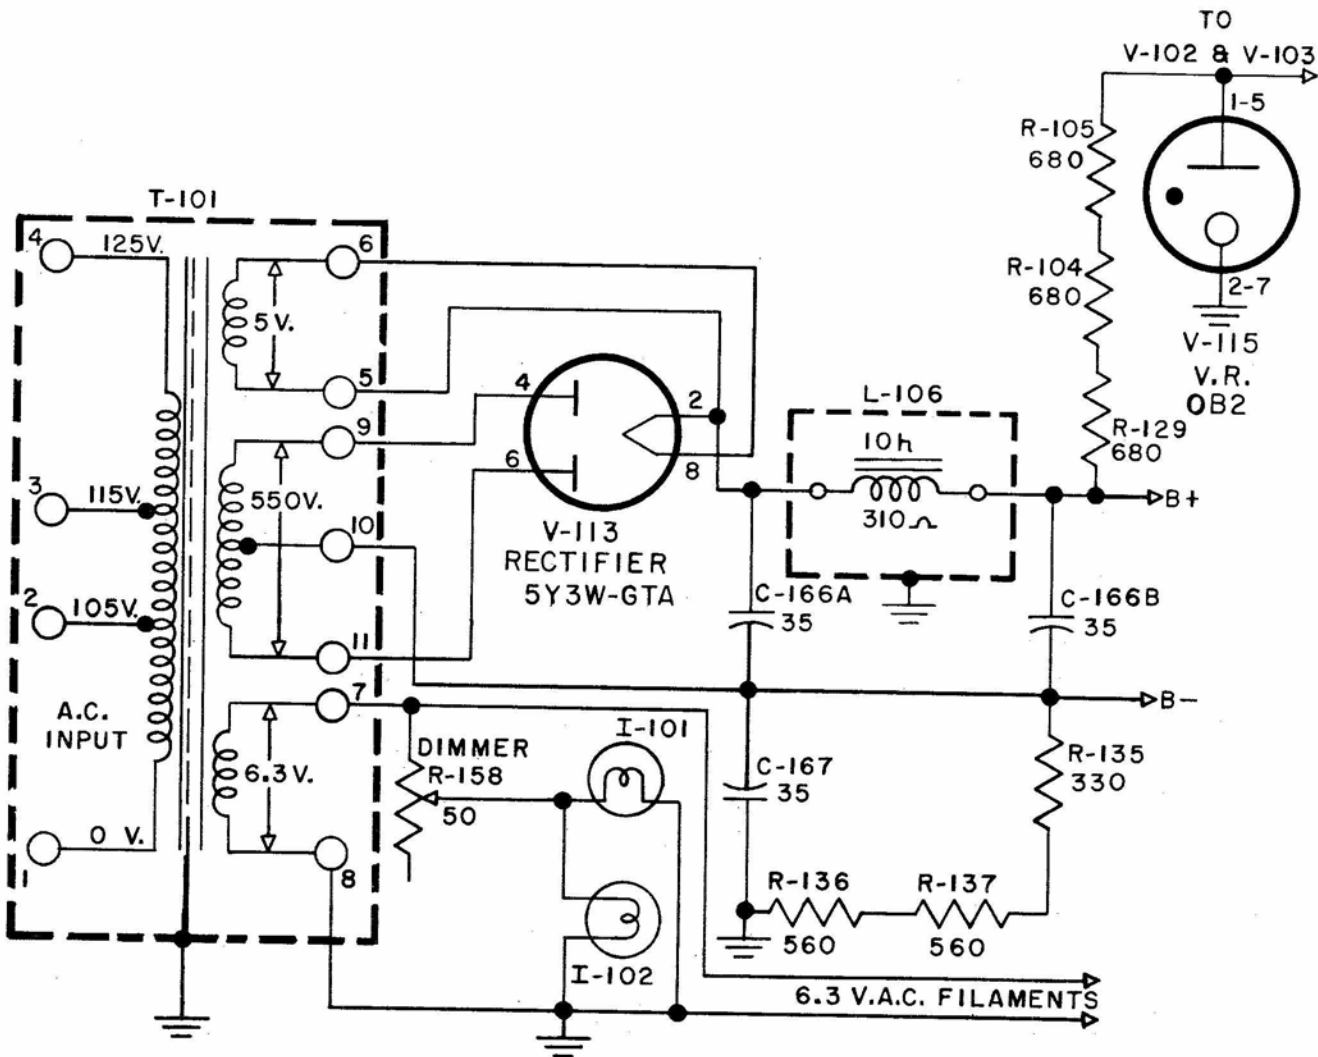

Figure 2-10. Power Supply, Simplified Schematic Diagram
1. POWER SUPPLY CIRCUIT DETAILS. (See Figure 2-10.)—The power supply used in the receiver has been designed to furnish filament voltage of 6.3 volts AC at 4 amperes, and B-plus voltages of 225 volts DC at 110 milliamperes and 108 volts DC, regulated, at 40 milliamperes when connected to the proper A.C. supply voltage. Power transformer T-101 has three taps on the primary permitting operation of the equipment from supply voltages of 105, 115, or 125 volts A C. depending upon the position of the movable link which is placed in the correct position when the equipment is installed.
the high-voltage secondary. The B-minus lead is not connected directly to the chassis, the circuit from chassis to B-minus being completed through resistors R-135, R-136 and R-137 as shown in Figure 2-10. Current flowing through these resistors produces a voltage drop across them so that the chassis is maintained at a positive potential of approximately 70 volts with respect to B-minus.